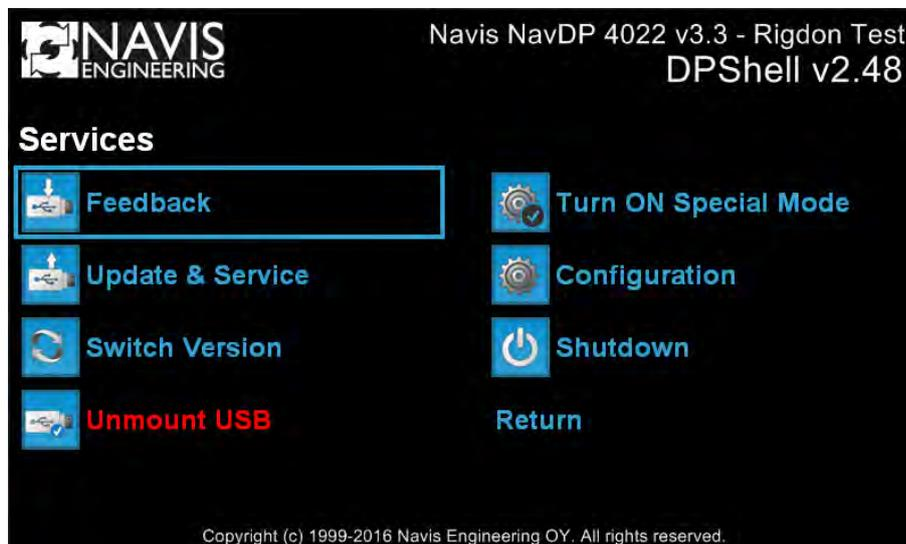

Figure G.15: DPShell Service menu
- 2.6. When you enter a correct password service menu will appear (see Figure G.15).
- 2.1. DP/IJ control computer is in service menu (see Figure G.15).